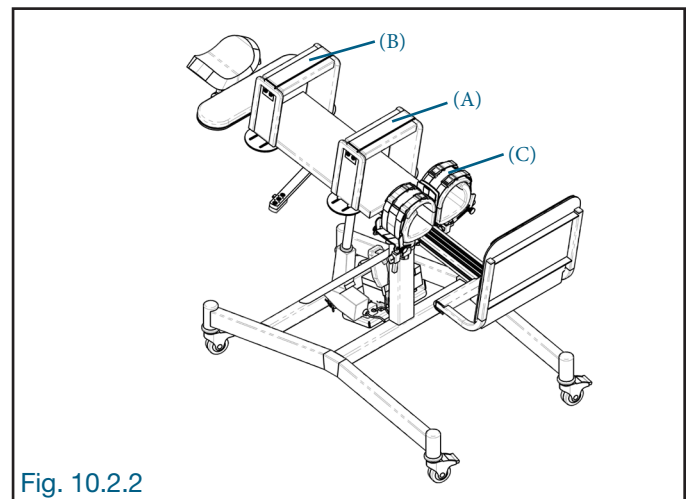

Fig. 10.2.2
10.2.2 VERTIFLEX SUPINE TYPE (fig. 10.2.2)